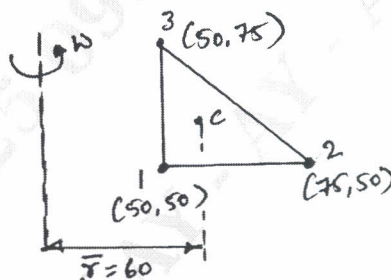

Fig Q9(b)
b. For the element of an axisymmetric body rotating with a constant angular velocity $W = 1000 \text{ rev/min}$ as shown in Fig Q9(b). Determine the body force vector. Include the weight of the material, where the specific density is 7850 Kg/m^3 .